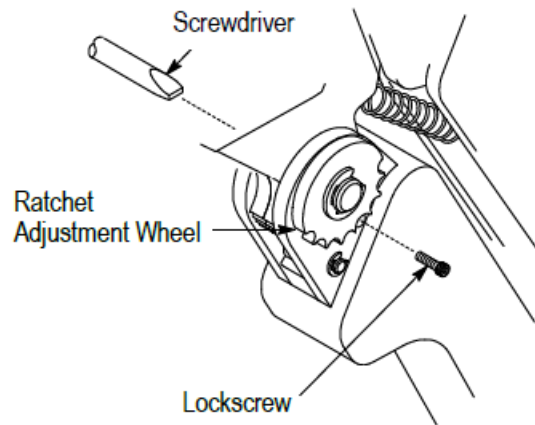

Figure 5
6. RATCHET ADJUSTMENT [FIGURE 5]